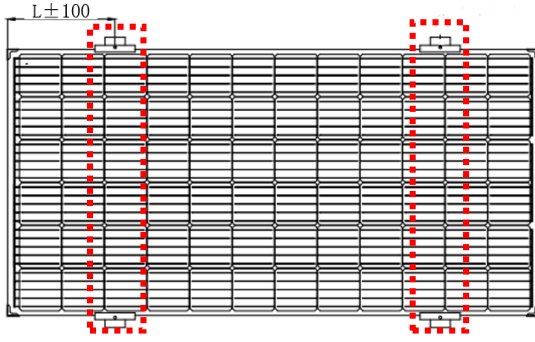
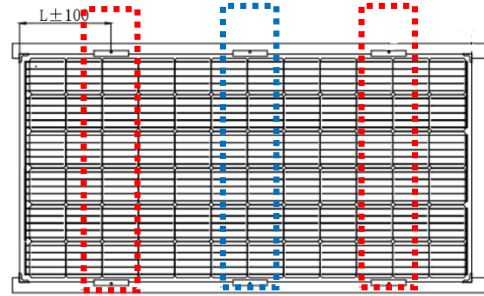

Figure 4
Figure 7
2. Please make sure that the clamps used do not cast shadow on the glass, and be sure to use at least 4 clamps for each module, with no less than 2 on each side. The exact number of clamps is determined by installation conditions including wind/snow load. The contact between clamps and the module must be smooth and free of flaws to avoid module cracks. Under no circumstances should the clamps be installed in a distorted way, and the proper torque applied is 17~23Nm. Detailed installation locations of the clamps are shown in figure 4~ figure 7.